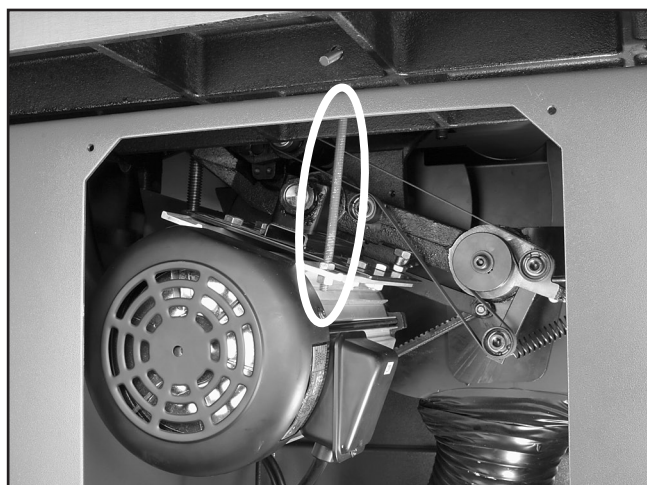

Figure 23. Motor support shipping bolt.
2. Open the cabinet and remove the red motor support bolt, shown in **Figure 23**, by removing the nut and tilting the blade assembly to clear the bolt.